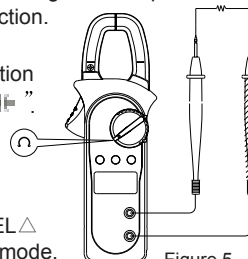

Figure 5
3. Resistance measurement (Ω) (See Figure 5)